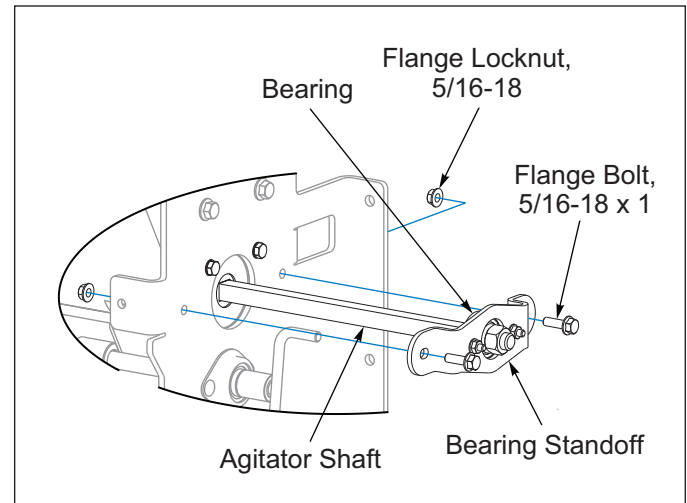

Figure 2-12: Agitator Assembly
1. On the RH end of the Agitator Seed Box, remove the 5/16-18 Hardware that attaches the Bearing Standoff to the RH Support. See Figure 2-12.